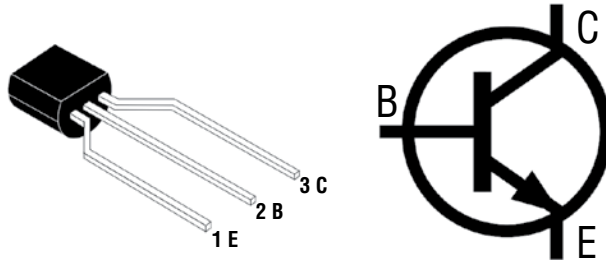

Figure 4-2: An NPN BJT
Transistors can be used for a multitude of tasks, from making amplifiers to making up the CPU inside your computer and smartphone. You can use a single transistor to make a simple electrically controlled switch. Every BJT has three pins (see Figure 4-2):
the emitter (E), the collector (C), and the base (B). Note that the order of the pins on the physical package is not always the same as the order shown in Figure 4-2; be sure to read the datasheet for your specific model of transistor.